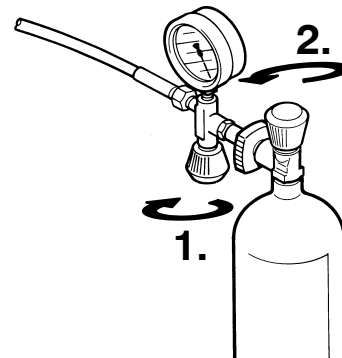

Fig. 13 Filling air bottle
- Open filling valve (1, Fig. 13).
- Open bottle valve (2) - bottle will be filled. Drain condensate regularly during filling. On units with automatic condensate drain check that condensate is drained regularly.